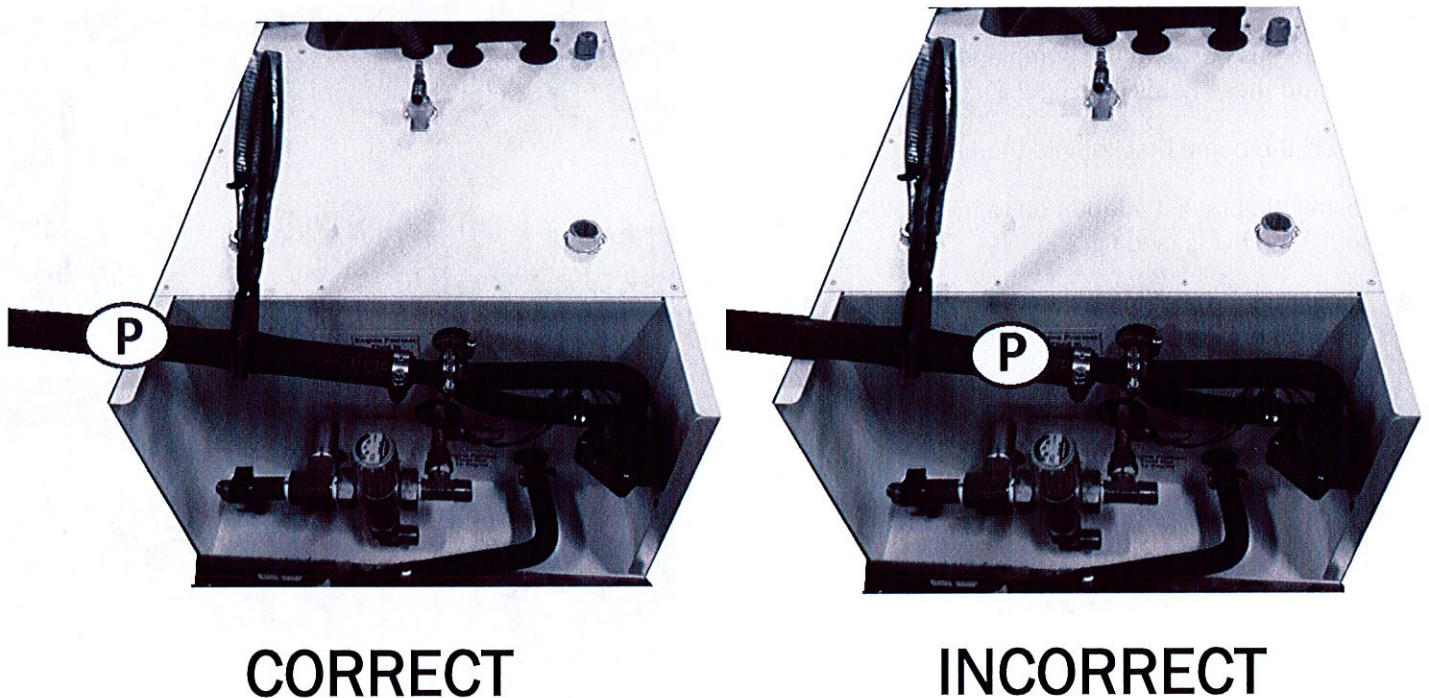

Fig 2.3
- A. Locate upper engine antifreeze hose connected to the top of the engine preheat pump as shown in figure 2.3.
- B. Clamp hose with hose pinch-off pliers or equivalent, approximately as shown in figure 2.3.
- NOTE:** Pressure is indicated in figure 2.3 by the letter P with a circle around it.
- E. Verify that firm hose pressure is detected on the left of the pliers. See figure 2.3.